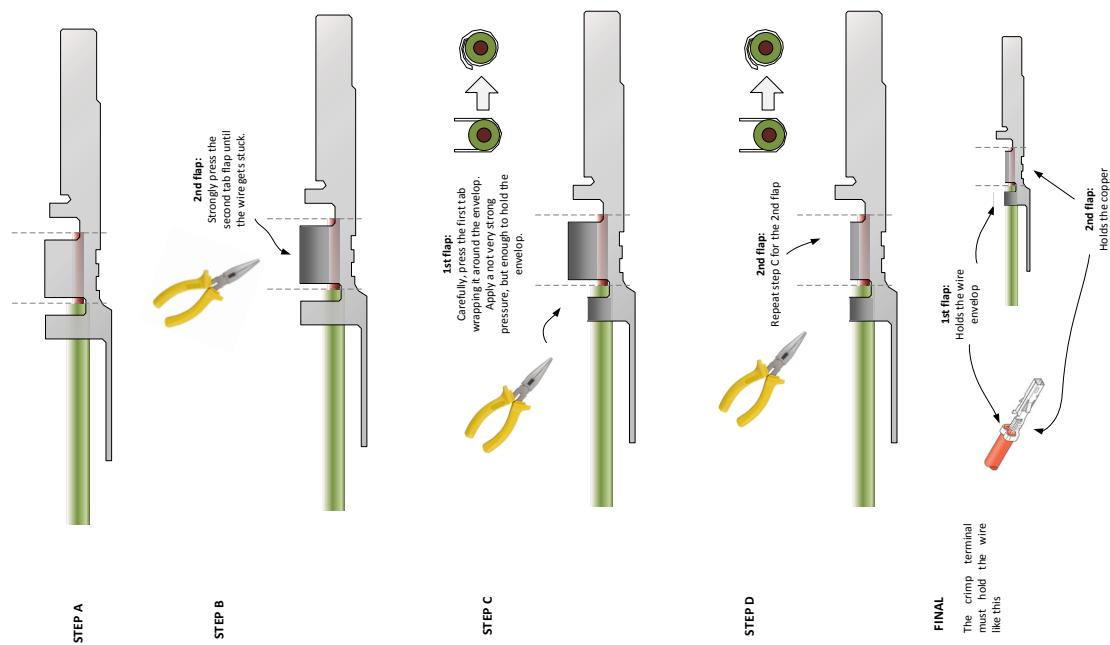

Figure 4.21: Crimping Molex Mini-Fit®: procedures for manual crimping
4. Use the Molex Hand Crimper (item 1) to crimp the wire.
- Place the wire/crimp terminal like described in item 3.
- Use a long needle-nose plier (like the one presented in section 3.10.1.3) to press the crimp flaps, following the steps described in figure 4.21.